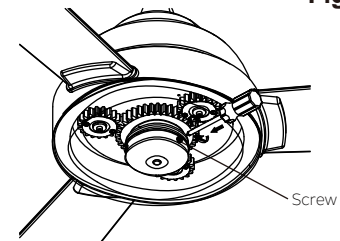

**Fig. 26**
**Step 4.** Remove three (3) screws from the switch housing as shown and save for later use. (Fig. 26)